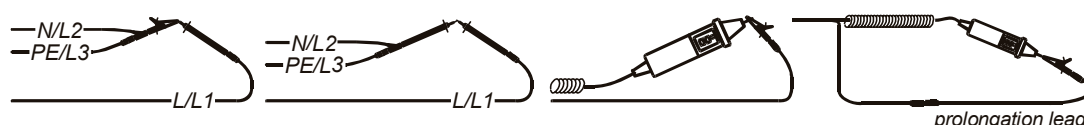

Figure 5.13: Shorted test leads
- ❑ **Connect** test cable to the instrument and short the test leads together (see figure 5.13).